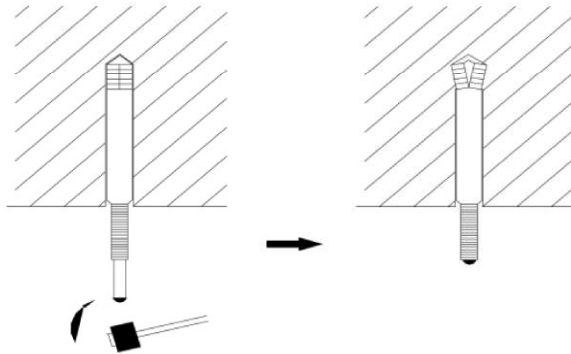

Fig. 3
- 1) Insert the M10 expansion bolt into the hole, and then knock the nail into the bolt. Refer to the Outline Dimension Drawings of the Indoor Unit for the distance between holes and see Fig.3 for the installation of the expansion bolt.